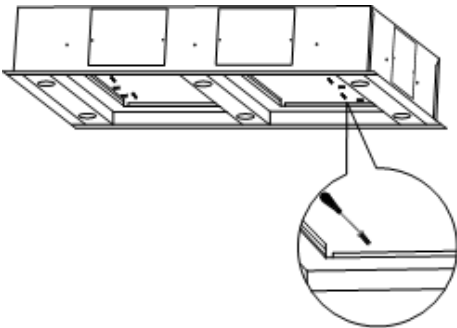

Fig 6
3. Hold the hood up into the cut-out in the ceiling and fix the hood at the fixing points (Fig 6).